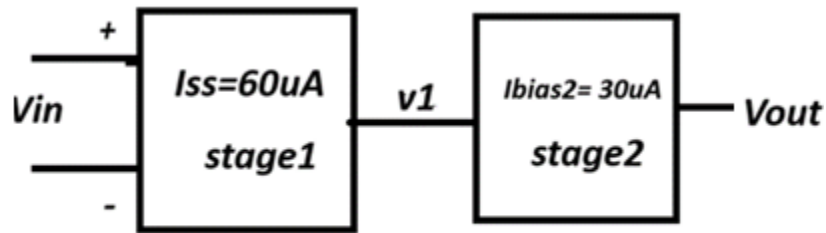

Fig. 6
Q6. Consider shown in **Fig. 6**. Take $V_{ov} = 0.2V$. Assume capacitive load at node V1 is **14 pF**, and capacitive load at node Vout is **2pF**
a) Sketch and label the schematic of **Fig. 6** for the following cases—